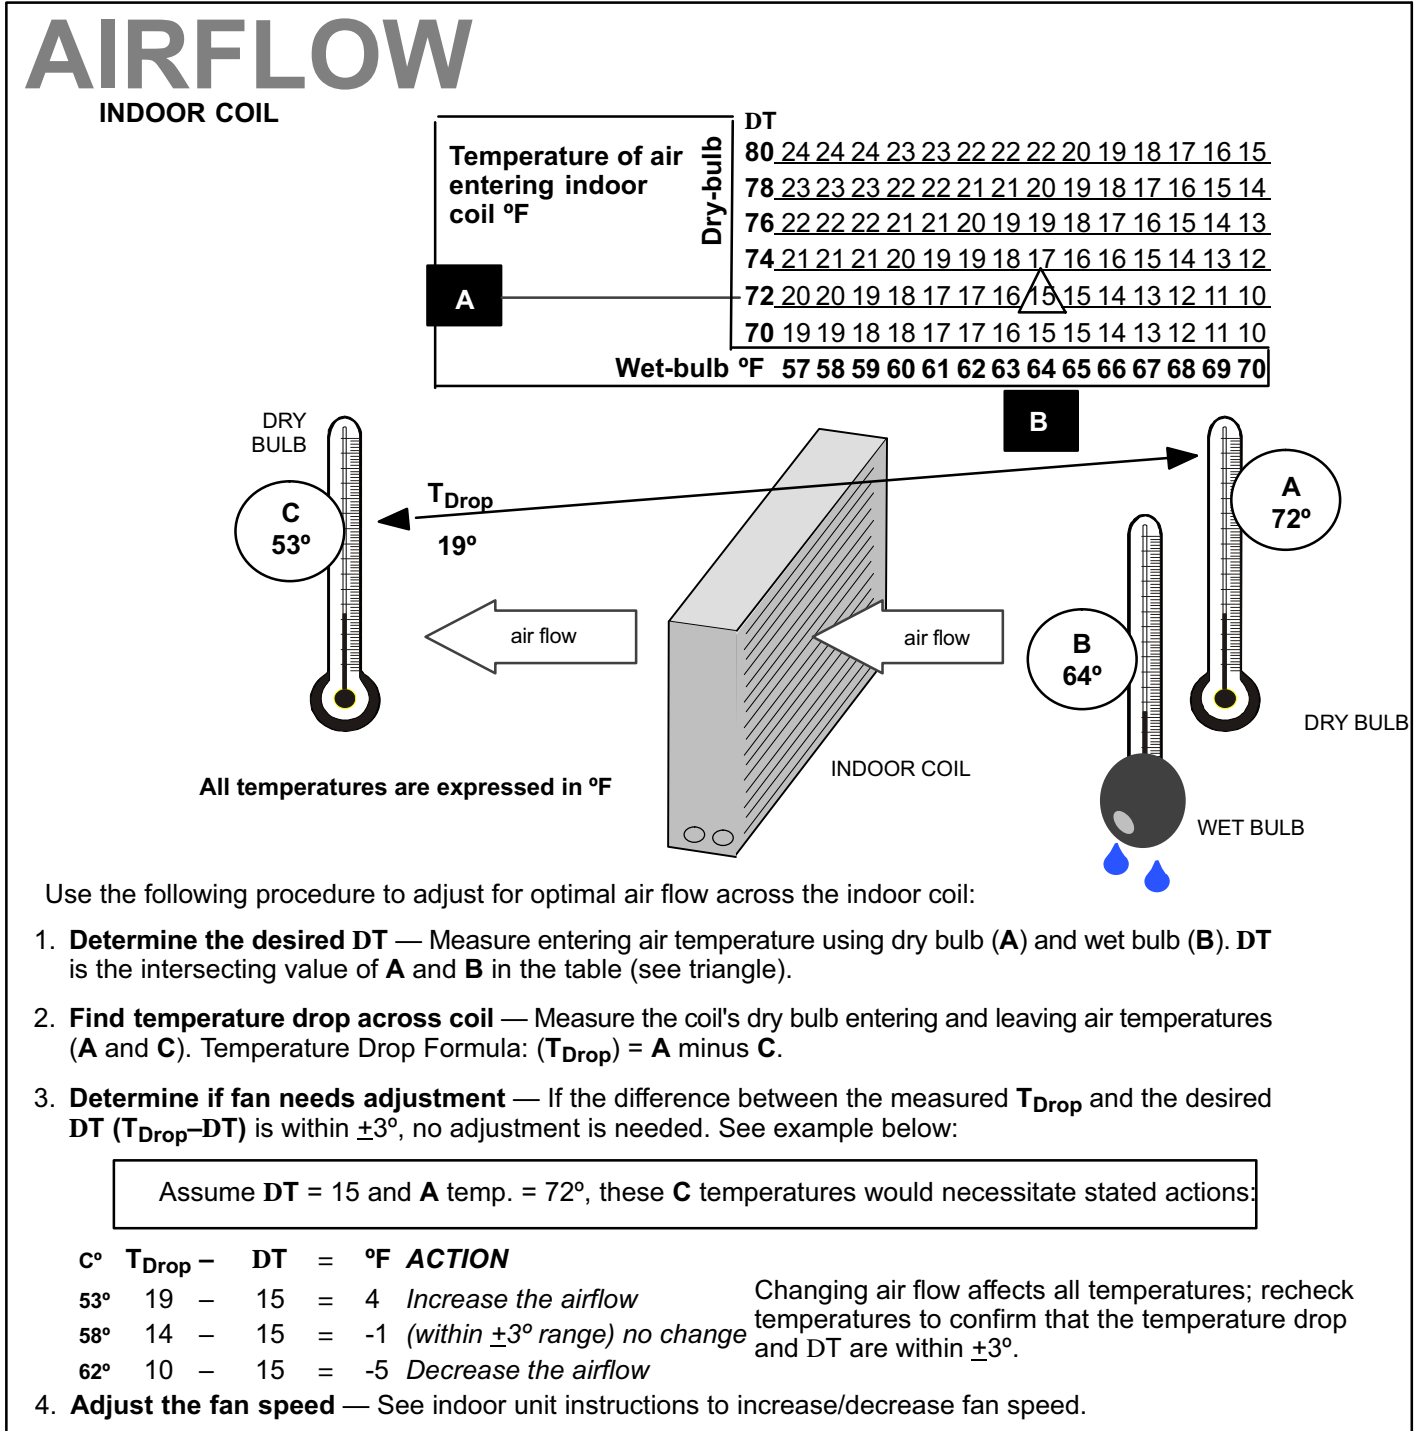

Figure 20. Checking Indoor Airflow over Evaporator Coil using Delta-T Chart
This system uses HFC-410A refrigerant which operates at much higher pressures than HCFC-22. The pre-installed liquid line filter drier is approved for use with HFC-410A only. Do not replace it with components designed for use with HCFC-22. This unit is NOT approved for use with coils which use capillary tubes or fixed orifices as a refrigerant metering device. Check airflow using the Delta-T (DT) process using the illustration in figure 20.